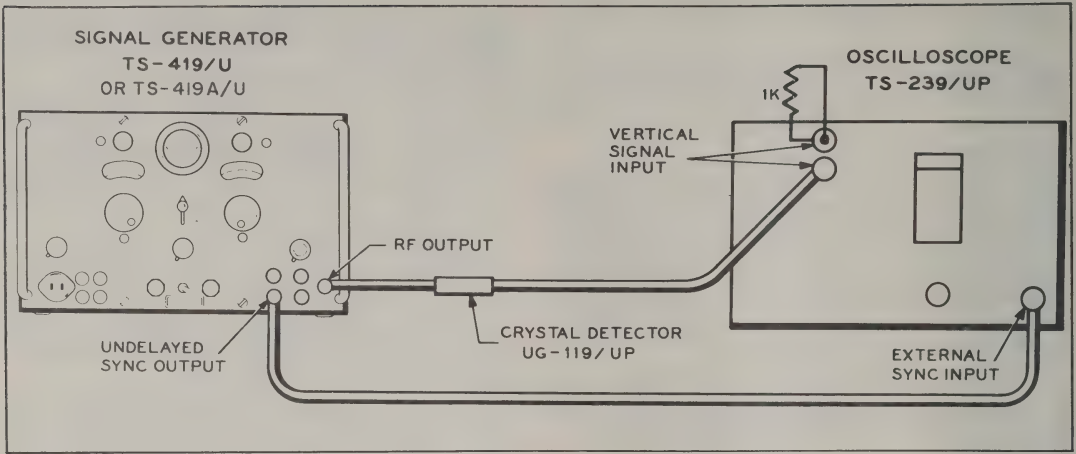

Figure 4-3. Test Connection Diagram for Measurement of Pulse Width
(5) Make circuit connections to required test equipment as shown in figure 4-3.
(6) Turn on Signal Generator TS-419/U and allow a minimum warm-up period of 20 minutes to insure complete stabilization.
(7) Set Signal Generator TS-419/U controls as follows:
(1) Connect the required test equipment as shown in figure 4-3. Be sure to provide a 1000 ohm d-c return for the crystal detector.
(2) Turn on Signal Generator TS-419/U and Oscilloscope TS-239/UP. Allow a 20-minute warm-up period to insure complete stabilization.
(3) Set Signal Generator TS-419/U controls as follows: